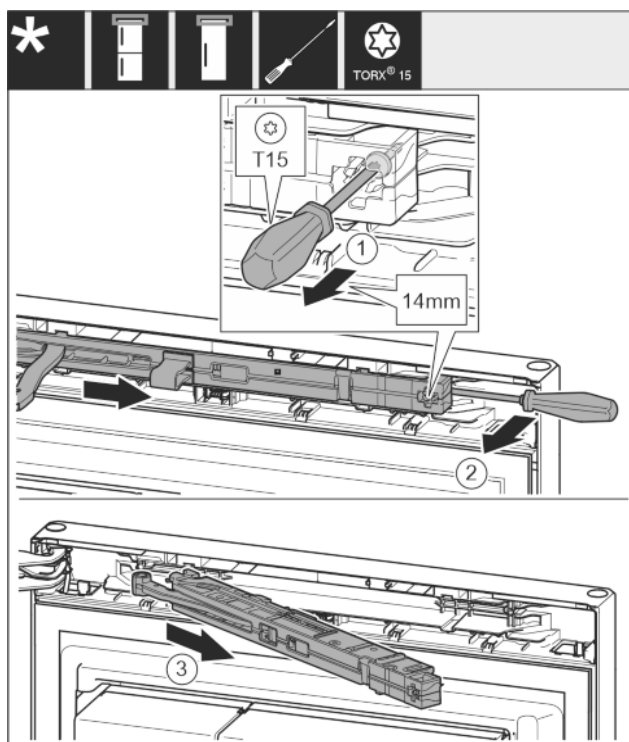

Fig. 9
- Undo the soft stop mechanism screw with a T15 screwdriver approx. 14 mm. Fig. 9 (1)
- Insert a screwdriver behind the soft stop mechanism on the handle side and rotate forwards. Fig. 9 (2)
- Remove the soft stop mechanism. Fig. 9 (3)